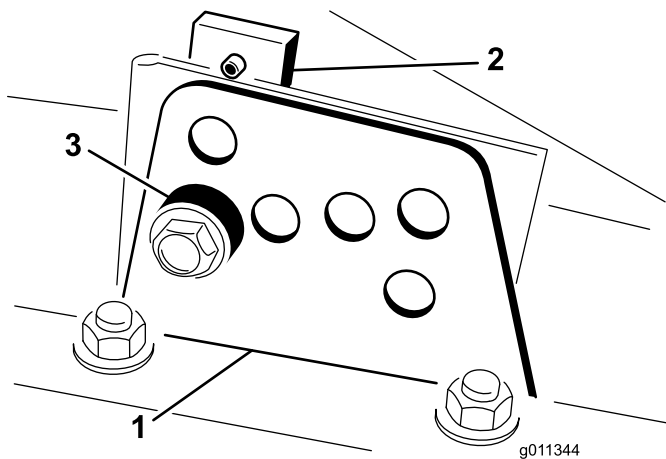

Figure 8
2. Loosen the bolt securing each height-of-cut bracket to the height-of-cut plate (front and each side) (Figure 8).
4. While supporting the chamber, remove the spacer (Figure 8).